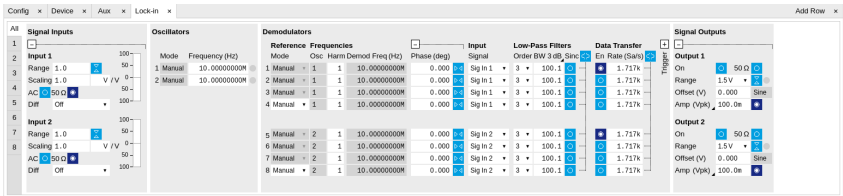

Figure 5.10: LabOne User Interface Lock-in tab - Parameter table (All)
The parameter table (see Figure 5.10) consists of 4 vertical sections: Signal Inputs, Oscillators, Demodulators and Signal Outputs. The Demodulator section is horizontally divided into two identical groups. The upper group is tied to oscillator 1 and the lower group is tied to oscillator 2. That means demodulators 1 to 4 (5 to 8) can demodulate input signals at the frequency of oscillator 1 (2) and higher multiples. Demodulators 4 and 8 can be used for external referencing. Every demodulator can be connected to any of the possible inputs and outputs. Signal Input 1 and 2 are identical in all aspects, the same holds for the Signal Outputs 1 and 2.